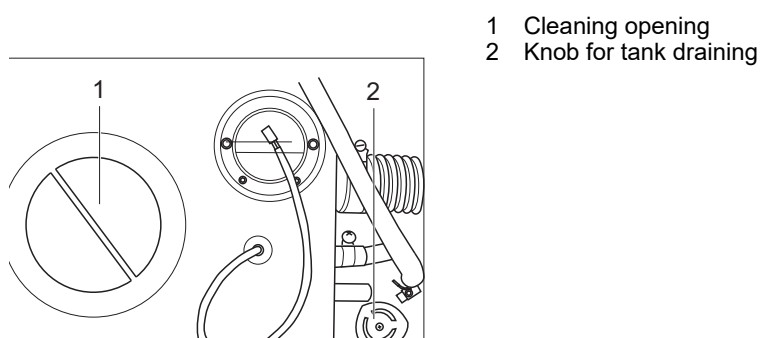
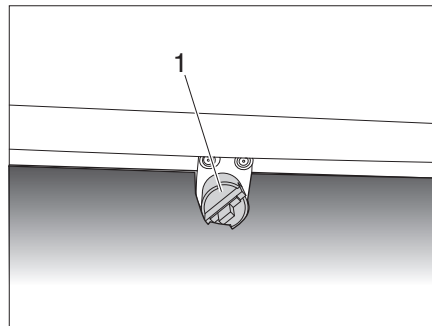
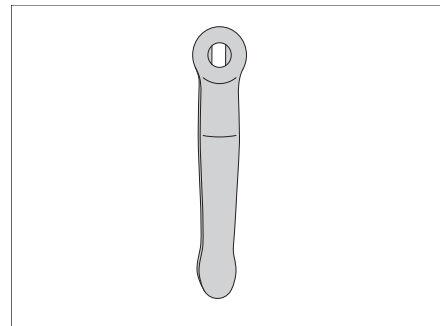
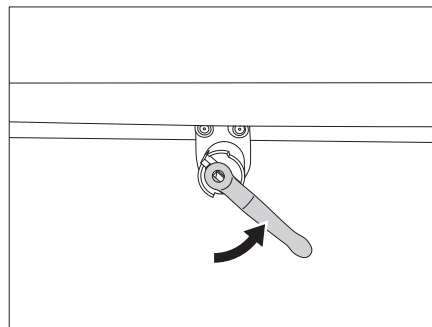

Fig. 67 Fresh water tank
Fig. 69 Drain waste water tank
Fig. 70 Tank key
Fig. 71 Open water tap
- Turn the knob for draining the tank (Fig. 67, 1) counter-clockwise until slight resistance can be felt.
- Turn the knob (Fig. 67, 1) further counter-clockwise.
- To close the drain turn the knob clockwise until it stops (Fig. 67, 1).
- Put the tank key (Fig. 70) on the drain device (Fig. 69,1).
- In order to open the waste water tap, turn the tank key (Fig. 70) a quarter turn anticlockwise (Fig. 71).
- To close the waste water tap, turn the tank key (Fig. 70) back clockwise as far as it will go.
- Ensure that the drainage opening in the inside of the fresh water tank (Fig. 67), the waste water tap (Fig. 69,1) and the safety valve of the hot water boiler are closed.